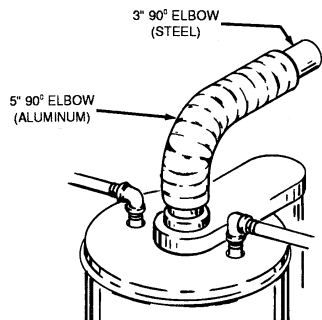

FIGURE 8
4. Install the 5 inch aluminum elbow over the 3 inch steel elbow. Be certain both are pointed in the desired direction with the 3 inch centered inside the 5 inch elbow. See figure 8.